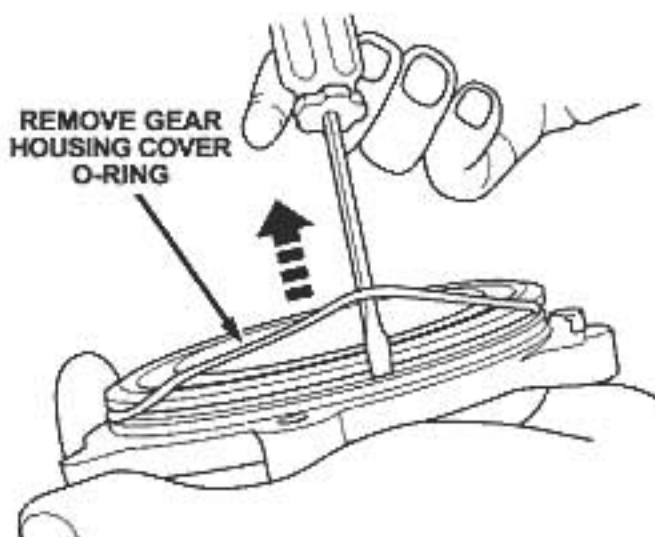

Figure 13
28. Remove the O-ring from the gear housing cover (Figure 13).